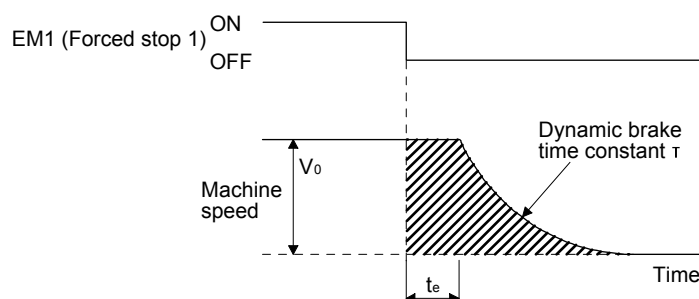

Fig. 15.3 Dynamic brake operation diagram
Fig. 15.3 shows the pattern in which the servo motor comes to a stop when the dynamic brake is operated. Use equation 15.1 to calculate an approximate coasting distance to a stop. The dynamic brake time constant τ varies with the direct drive motor and machine operation speeds. (Refer to (1) (b) of this section.)